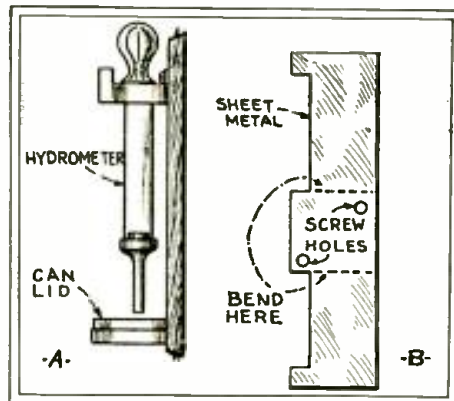

Fig. 3
**I**N the transmission of images, and their reception, by the Baird system, now in use in England, a somewhat similar principle is employed. In following this description, it must be remembered that, on the Baird televisions, the image is framed at the side of the disc, and scanned from bottom to top; it is narrow and high (Fig. 3).
On each side is mounted an electromagnet, so connected that poles of opposite polarity are always presented to the cogwheel. The surface of each magnet pole is exactly equal in size to the outer face of each cog, and the clearance is very small—about 1/500-inch. The cogwheel, which is keyed to the driving shaft of the scanning disc, is so set that, whenever a hole on the scanning disc is just half covered by the frame of the window (that is, half of it is in the black band of Fig. 3) two opposite teeth of the cogwheel are exactly facing the magnet poles.